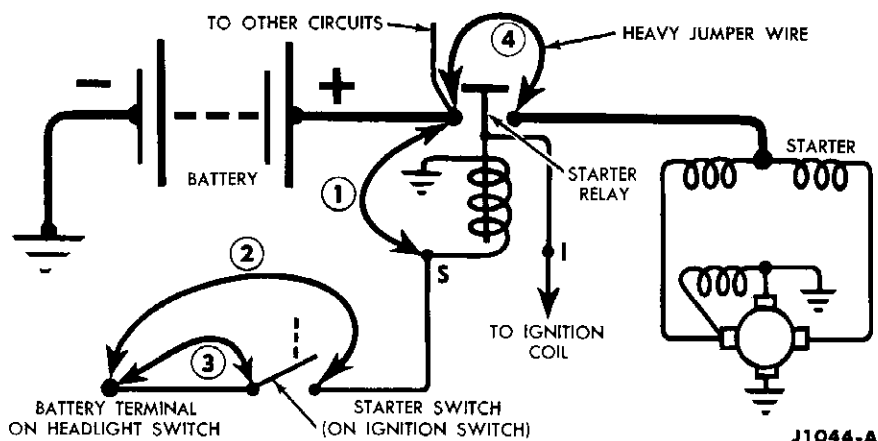

FIG. 4—Starting Circuit Test
Connect a jumper from the battery terminal of the relay to the ignition switch terminal of the relay, Fig. 4, connection marked ①. If the engine does not crank, the starter relay is probably at fault. If the engine cranks, connect a jumper from the battery terminal on the lighting switch to the (ST) starter relay terminal of the ignition switch, Fig. 4, connection marked ②. If the engine does not crank, the wire connecting the starter relay to the ignition switch, or the wiring connecting the battery to the lighting switch is defective. If the engine cranks, connect the jumper between the lighting switch battery terminal and the "AM" or "BAT" terminal of the ignition switch, Fig. 4, connection marked ③. If the engine does not crank when the ignition switch is operated, the ignition switch is at fault. Replace the switch. If the engine cranks when the ignition switch is operated, the wire connecting the ignition switch to the battery terminal on the lighting switch is at fault. Replace the wire.
If the relay clicks when the ignition switch is operated, connect a heavy jumper from the relay battery terminal to the relay starter motor terminal, Fig. 4, connection marked ④. If the engine cranks, replace the relay. If the engine does not crank, observe the spark when connecting and disconnecting the jumper. If there is a heavy spark, see "Check Engine and Starter Drive" below. If the spark is weak or if there is no spark at all, proceed as follows: